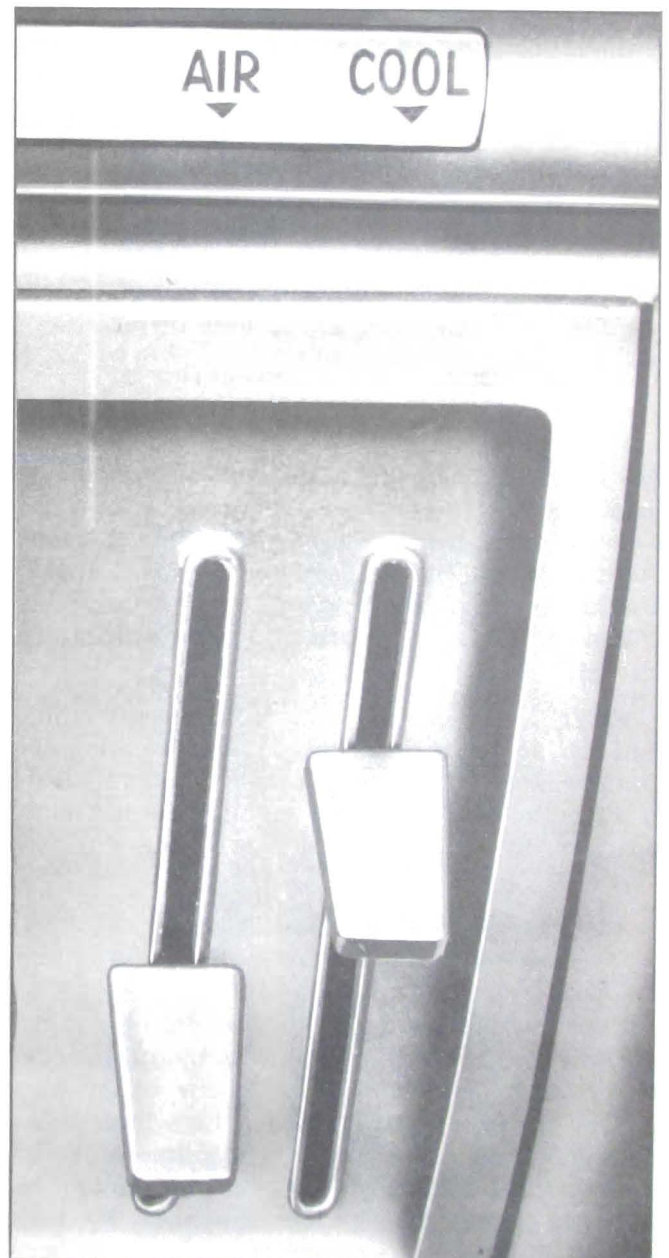

Figure 11-41—Air Conditioner Control Levers
10. Controls. The air conditioner control levers are located to the left of the steering column, replacing the ventilator levers on non-air conditioner cars. See Figure 11-41.